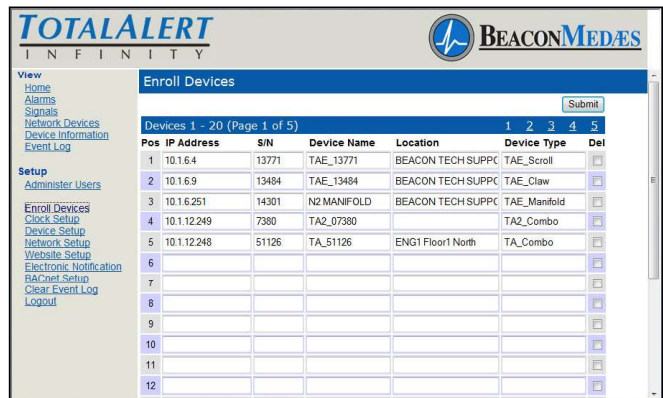

Figure 194: Enroll Device Setup
- Click on Enroll Devices to access the Enroll Devices Setup page (Figure 194).